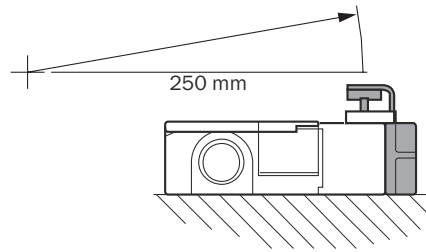

Figure 3: Actuation direction with increased door radius
1) For a certain actuation direction, the door radius must be  $\geq 250 \text{ mm}$  (see figure 3).